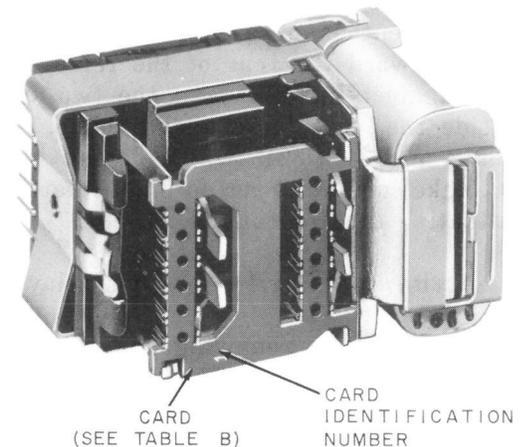

Fig. 4—12-Position Relay—Cover Removed
*The identification number is stamped and located in the lower left-hand corner of each card when the card is properly mounted on the relay, as shown in Fig. 4. The number stamped on the